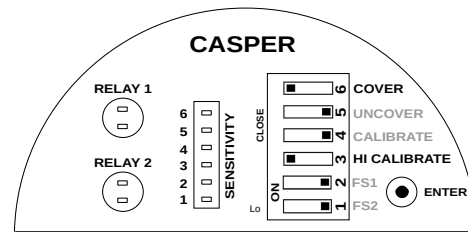

Figure 22: Cover Delay Switch Position for Relay 2
- For setting cover delay for RELAY 2, set the COVER and HI CALIBRATE switch to CLOSE (Opposite of OPEN for DIP switch) position as shown in Figure 22.